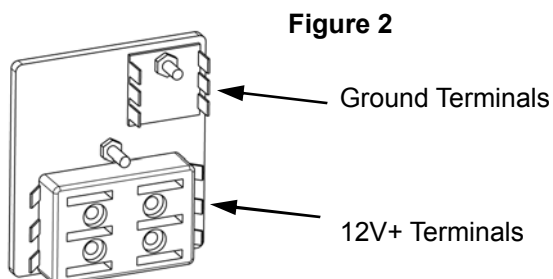

Figure 2
5. Locate the red fuse block to switch wire. Connect wire to empty 12V+ fuse terminal location, selected in Step 4. (**Figure 2**)
7. Connect the short black wire to a ground terminal on the fuse block. (Figure 2)
10. Connect the long black wire to a ground terminal on the fuse block. (Figure 2)
13. Install 2 amp fuse (**Item 25**) into fuse block location selected in Step 4. (**Figure 2**)